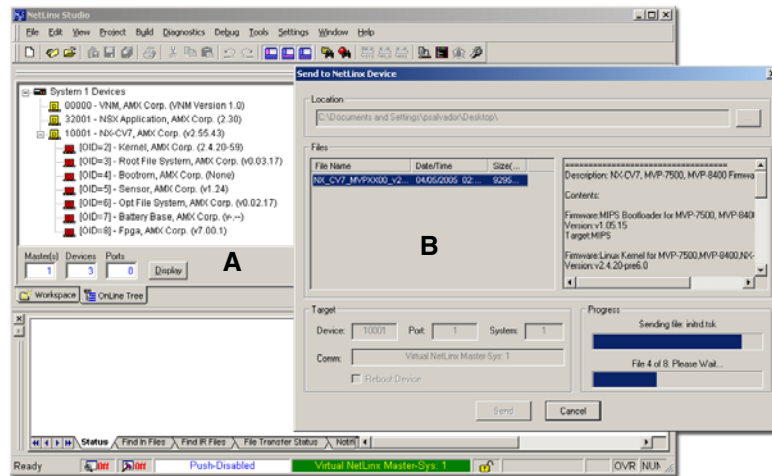

FIG. 79 Using USB for a Virtual Master transfer
7. From within Studio, select **Tools > Firmware Transfers > Send to NetLinx Device** from the Main menu to open the Send to NetLinx Device dialog (**B** in FIG. 79). Verify the panel's System and Device number values match those values listed within the System folder in the **OnLine Tree** tab of the Workspace window (**A** in FIG. 79).
11. Click **Send** to begin the transfer. The file transfer progress is indicated on the bottom-right of the dialog (**B** in FIG. 79).